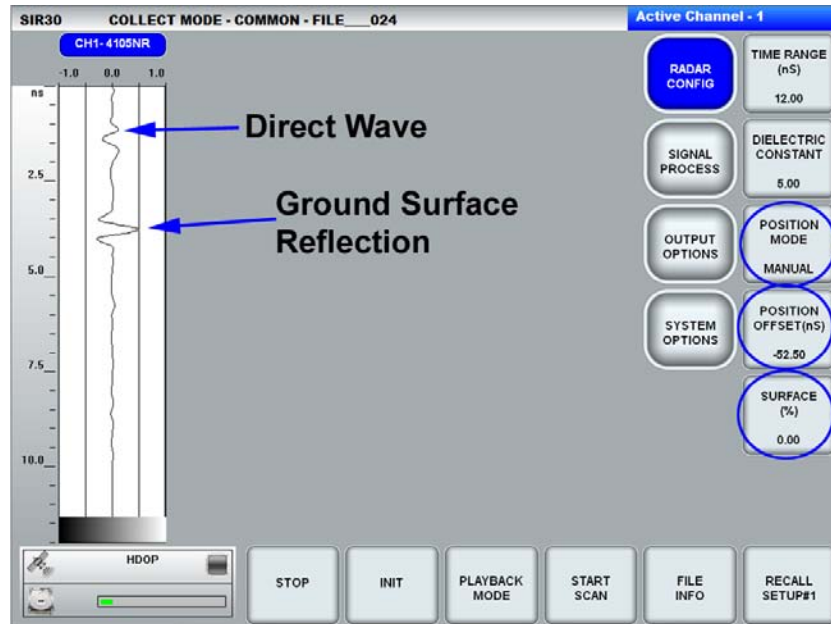

Figure 17: Horn signal position
- 10** Change POSITION OFFSET until the scan trace looks like Figure 17. It is very important that there be a short amount of “flatline” data above the Direct Wave.